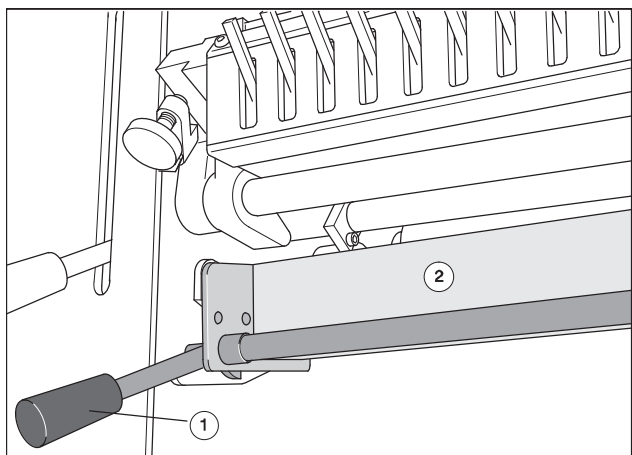

Fig. 67 Inserted inking roller washup device, PU 1
2. Pull down the lever (Fig. 67/1).
3. Pull out the inking roller washup device (Fig. 67/2).